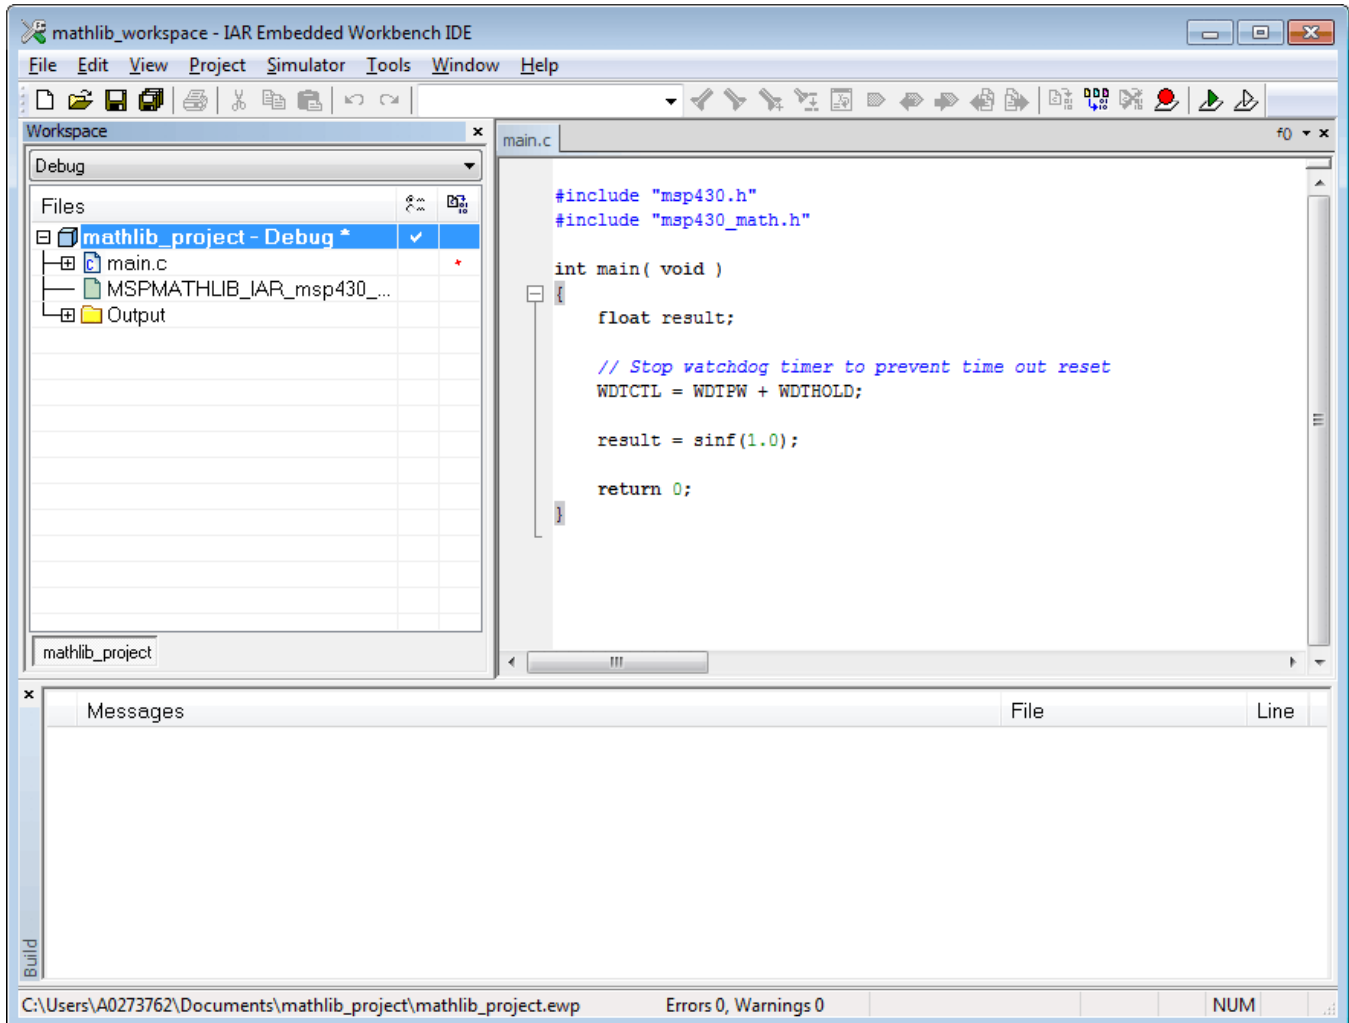

Figure 10. Replace Includes of math.h With msp430_math.h
- Replace all inclusions of math.h with the msp430_math.h header file that is located in the top-level include directory (see Figure 10). msp430_math.h includes math.h and redefines the function names to link the included library functions. Functions that are not included in MSPMATHLIB continue to use the compiler implementation.